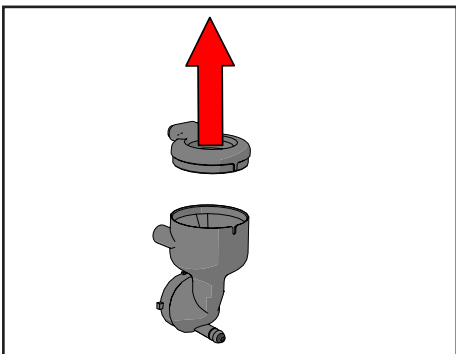

Figure 41.
11. Separate them from each other (see Figure 41).